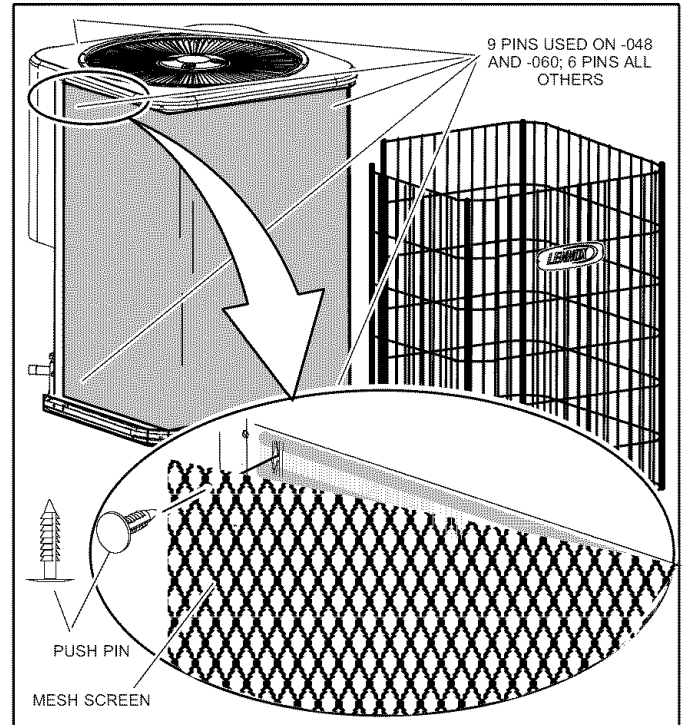

Figure 34. Cleaning debris from mesh
2. The outdoor coil is protected by an inner mesh screen and a wire cage (see figure 34). If debris has collected between the mesh screen and the coil and cannot be dislodged by spraying unpressurized water from inside coil surface to the outside, the mesh may be removed by first removing the top of the unit which will allow for removal of the wire cage.